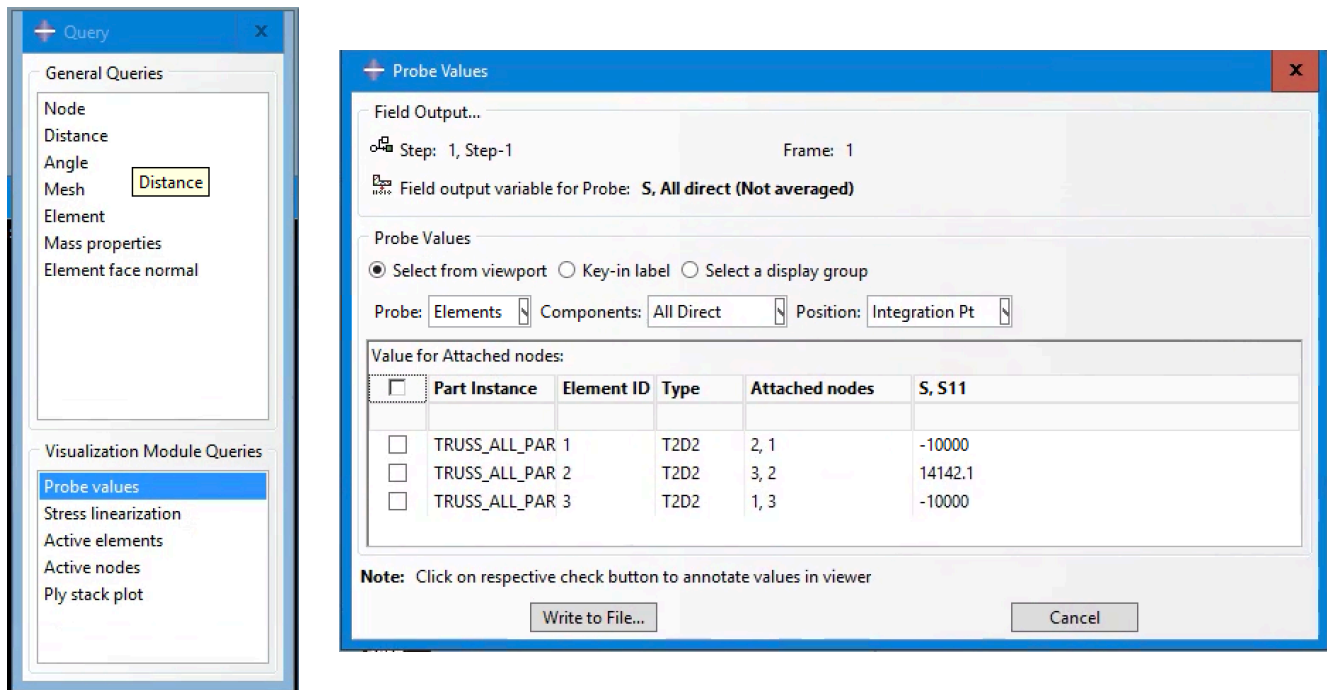

Figure 42 Probing output values
- To check the result values in all or some specific elements, you can use the **Query** toolset in the Visualization module. Again, you can access the Query toolset through **Tools/Query**. In the appeared dialog box, select **Probe values** from Visualization Module Queries. Then, if you move the mouse pointer over the elements and click on a specific element, the values will be displays on **Probe Values** dialog box (Figure 42).